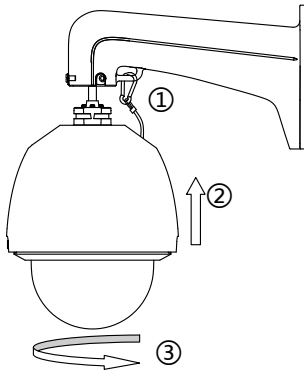

Figure 1-10 Mount the Dome
6. Hang the safety rope to the speed dome and then hook to the mount as shown in Figure 1-10.